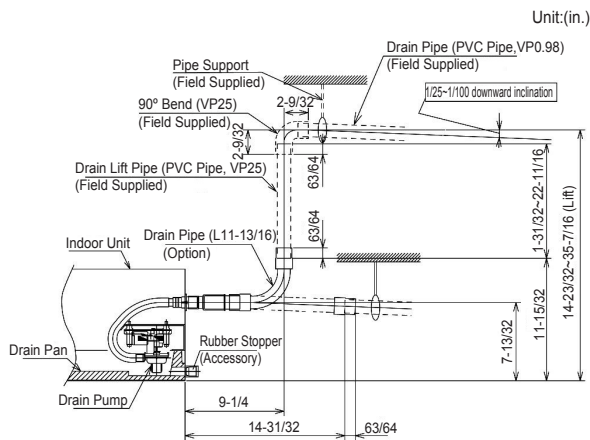

Fig. 6.1 Drain Pipe
- (1) See Fig. 6.1 for connection point of drain pipe.
- (2) Find a PVC pipe with an outside diameter of 1-1/4 in.
- (3) Fix the PVC pipe to drain pipe through adhesive and factory-supplied clamp. The downward inclination of drain pipe is 1/25~1/100 in.
- (4) Make thermal insulation after the proper connection of drain pipe.